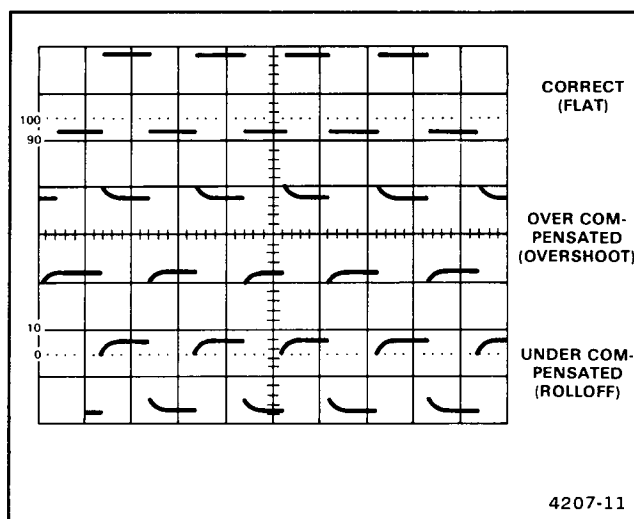

Figure 2-9. Probe compensation.
7. Check the waveform presentation for overshoot and rolloff (see Figure 2-9). If necessary, adjust the probe compensation for flat tops on the waveforms. Refer to the instructions supplied with the probe for details of compensation adjustment.